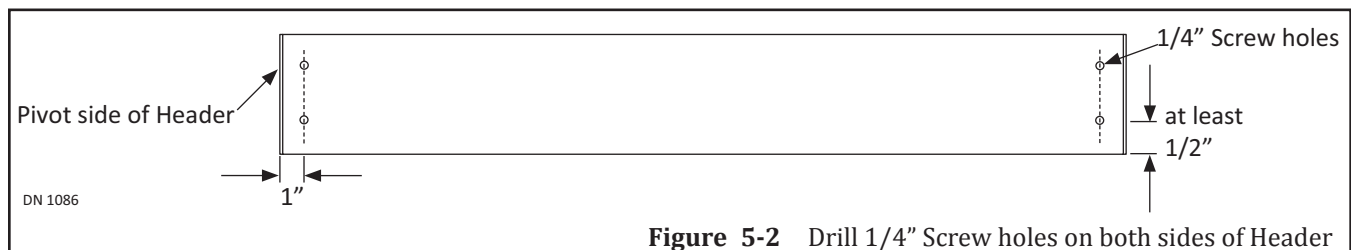

Figure 5-2 Drill 1/4" Screw holes on both sides of Header
3. Measure 1 inch from the End Cap towards the center of Header. Mark a Horizontal Line. Please see Figure 5-2.
5. Measure at least 1/2 inch from the top of Header towards the bottom. Mark (1) more Horizontal line across the Vertical line directly above the first screw hole. This is the center of the second screw hole. Drill 1/4 inch screw hole.